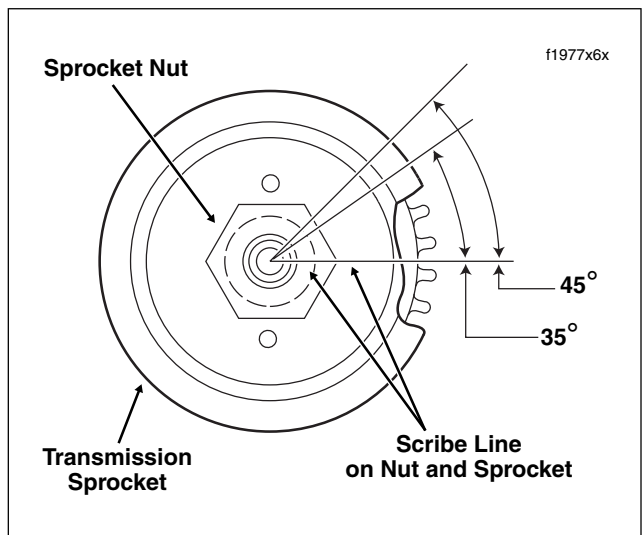

Figure 7-46. Tighten/Secure Sprocket Nut
- 9. Scribe a straight line on the transmission sprocket nut continuing the line over onto the transmission sprocket as shown in Figure 7-46. Tighten the transmission sprocket nut an additional 35° to 40°.
- 11. If holes in lockplate do not align with those in sprocket, tighten sprocket nut as necessary (up to the 45° maximum) until sprocket and lockplate holes are in alignment. See Figure 7-46.